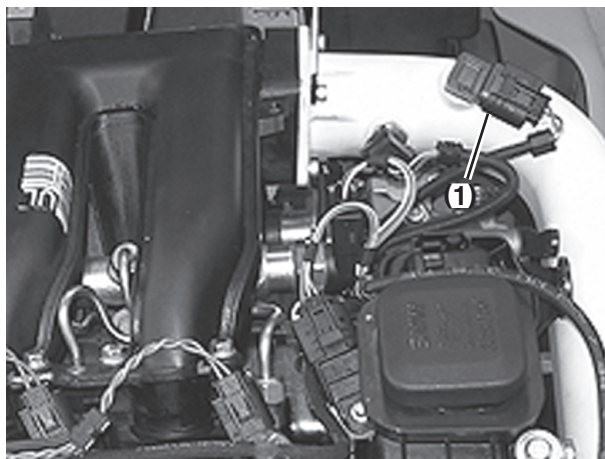

Figure 12-25
2. Disconnect electrical connector (**Figure 12-25, (1)**).